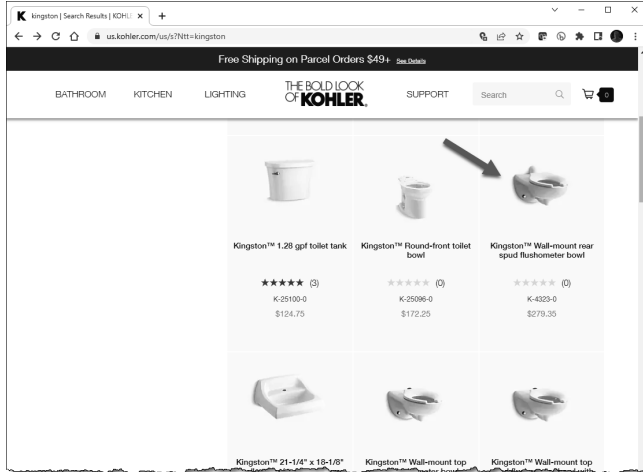

FIGURE 4-1.2 Website: www.kohler.com; search results
4. Click directly on the toilet image for model **K-4323-0** (Figure 4-1.2).